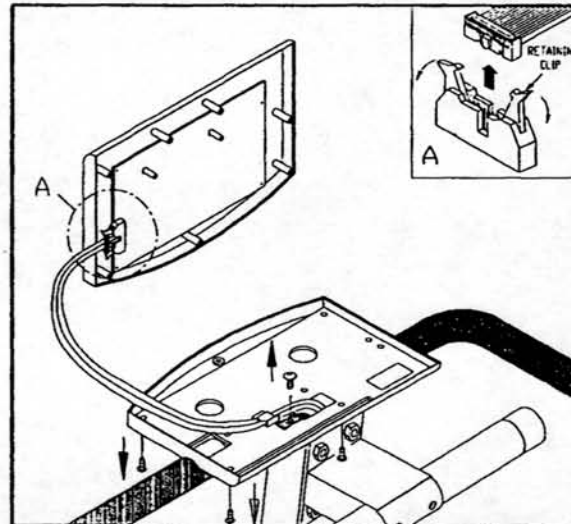

Fig.10-2
3. Disassemble all the screws of the panel and take off the COVER of PANEL. Unplug the cable from the RETAINING CLIP and loose the screw of the CABLE FIXED BAND. And then take the RIBBON CABLE from the ELECTRONIC PACKAGE away (see fig.10-2)